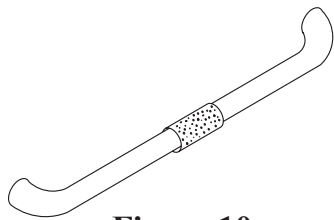

Figure 10
9. Install foam grip (4) on lid handle (3). See Figure 10. **Tip:** For ease of installation, slightly lubricate the lid handle with liquid soap before pushing the foam grip into place.